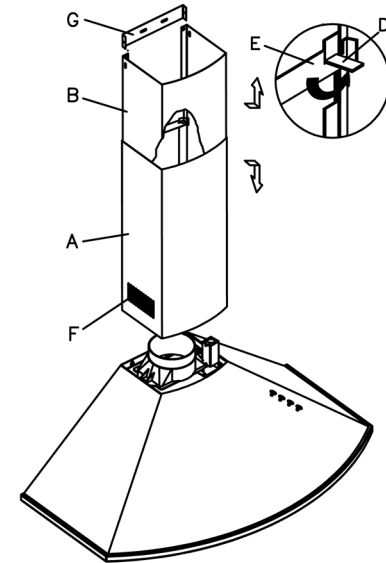

Fig. 2
- Mark the wall at the location of support E (Figure 2) according to the heights and specifications shown on the attached jig.
- Place tube A with the extendible part B hanging on the inside, making sure that flange D is correctly lodged in the support E (Fig. 2).